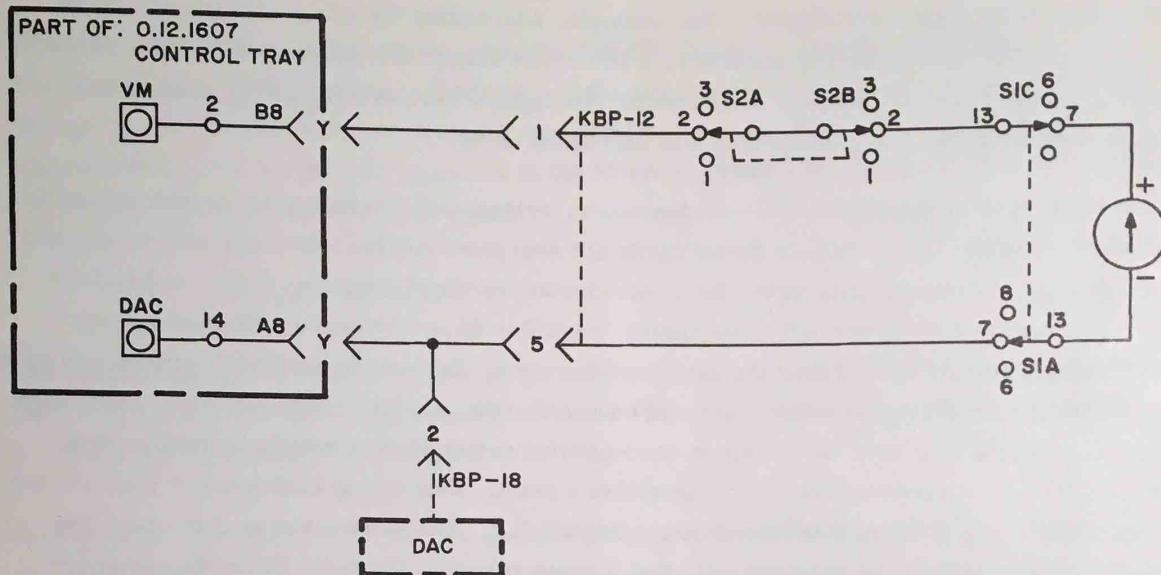

Figure 4.6. Null Circuit, Simplified Schematic
4.2.9 The VOLTMETER (VM) Circuit
The VOLTMETER (VM), Figure 4.6, located in the monitor panel area directly beneath the DVM readout display, consists of a Model 0.13.0046 Overload/VM Card, a FUNCTION switch, and a RANGE switch. The overload portion of the circuit consisting of Q1, Q2, LS1 and their associated circuitry, is described with the Overload Indicators, Chapter 6 of this handbook.
The 30, 10, 3, 1, .3, and .1 positions on the RANGE switch are used to scale the input voltage by connecting precision resistors between the voltage input and the VM. The NULL position provides circuitry (Figure 4.6) to accurately set voltages in the absence of a DVM. The procedure for setting voltages using the nulling method is given below.